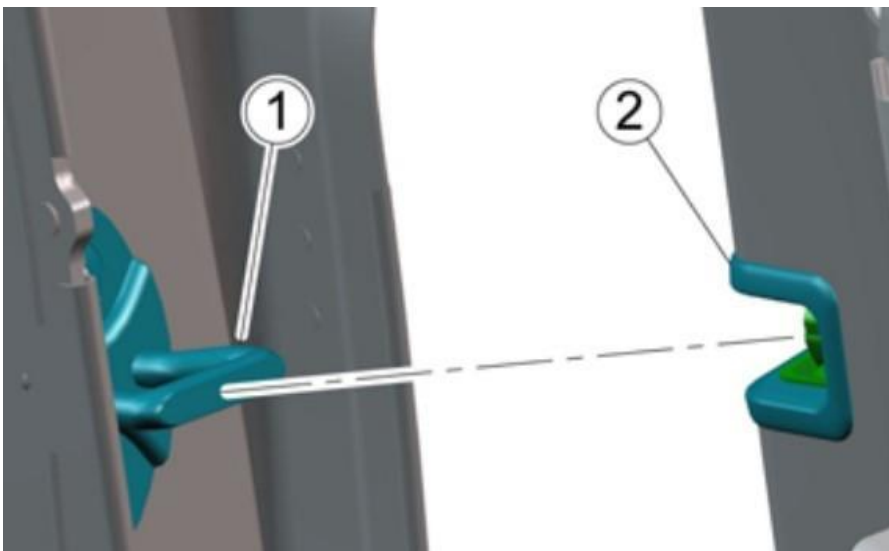

Figure 3
- Referring to Figures 3 and 4 - Adjust the position of the striker (1) so it is located centrally in the door latch (2)